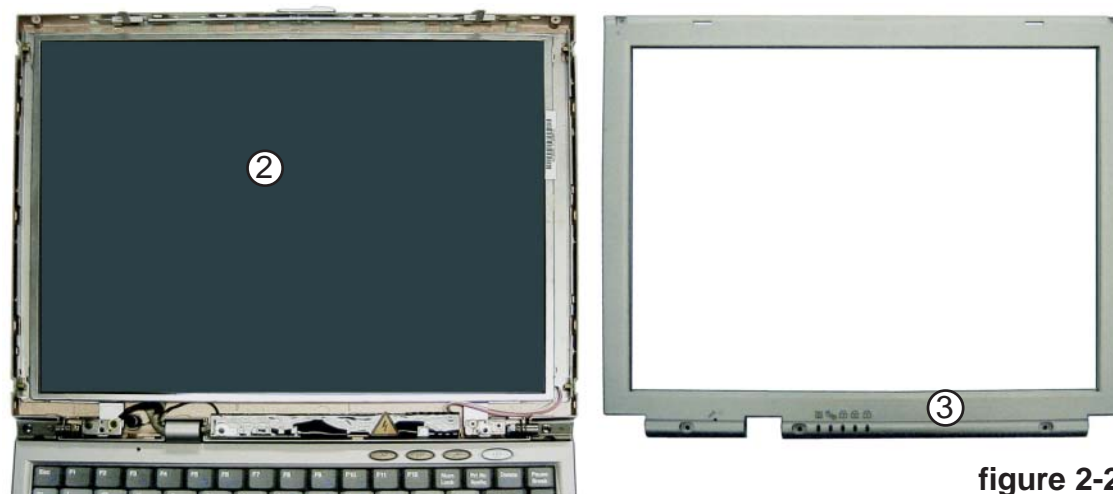

figure 2-21
3. Run your finger around the middle of the frame and separate the frame from the back (figure 2-21).